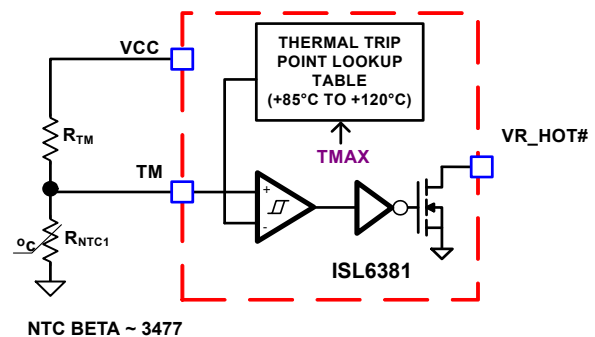
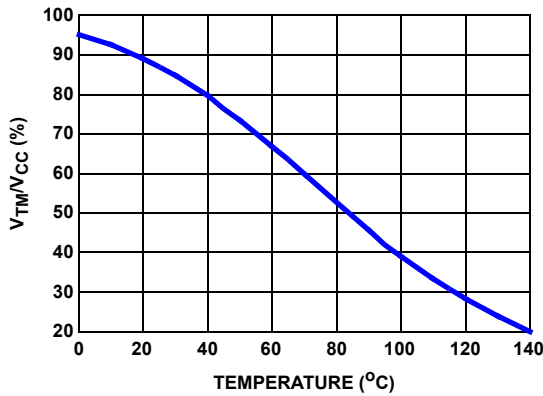

FIGURE 20. BLOCK DIAGRAM OF THERMAL MONITORING FUNCTION
FIGURE 21. THE RATIO OF TM VOLTAGE TO NTC TEMPERATURE WITH RECOMMENDED PARTS
The thermal monitoring function block diagram is shown in Figure 20. One NTC resistor should be placed close to the respective power stage of the voltage regulator VR to sense the operational temperature, and pull-up resistors are needed to form the voltage dividers for the TM pin. As the temperature of the power stage increases, the resistance of the NTC will reduce, resulting in the reduced voltage at the TM pin. Figure 21 shows the TM voltage over the temperature for a typical design with a recommended 6.8kΩ NTC (P/N: NTHS0805N02N6801 from Vishay, $b = 3477$) and 1kΩ resistor R_{TM} . It is recommended to use those resistors for the accurate temperature compensation since the internal thermal digital code is developed based upon these two components. If a different value is used, the temperature coefficient must be close to 3477 and R_{TM} must be scaled accordingly. For instance, $NTC = 10\text{k}\Omega$ ($b = 3477$), then R_{TM} should be $10\text{k}\Omega / 6.8\text{k}\Omega * 1\text{k}\Omega = 1.47\text{k}\Omega$.
Based on the V_{CC} voltage, the ISL6381 converts the TM pin voltage to a 6-bit TM digital signal for temperature. For accurate temperature compensation, the ratio of the TM voltage to the NTC temperature of the practical design should be similar to that in Figure 21.
When a different NTC type or different voltage divider is used for the TM function, the TCOMP voltage can also be used to compensate for the difference between the recommended TM voltage curve in Figure 21 and that of the actual design. If the same type NTC ($\beta = 3477$) but different value is used, the pull-up resistor needs to be scaled, as shown in Equation 21:
1. Properly choose the voltage divider for the TM pin to match the TM voltage vs temperature curve with the recommended curve in Figure 21.